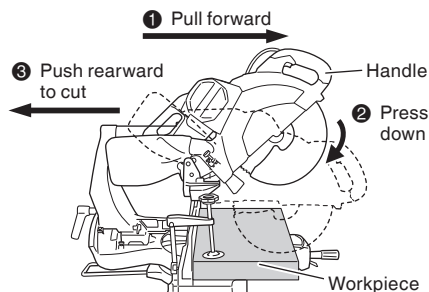

Fig. 27
Then press down on the handle and slide the saw blade back to cut the workpiece as indicated in Fig. 27. This facilitates cutting of workpieces of up to 4-3/16" (107 mm) in height and 12-1/4" (312 mm) in width.
- ⚠ WARNING:** * For slide cutting, follow the procedures indicated above in Fig. 27. Forward slide cutting (toward the operator) is very dangerous because the saw blade could kick upward from the workpiece. Therefore, always slide the handle away from the operator.